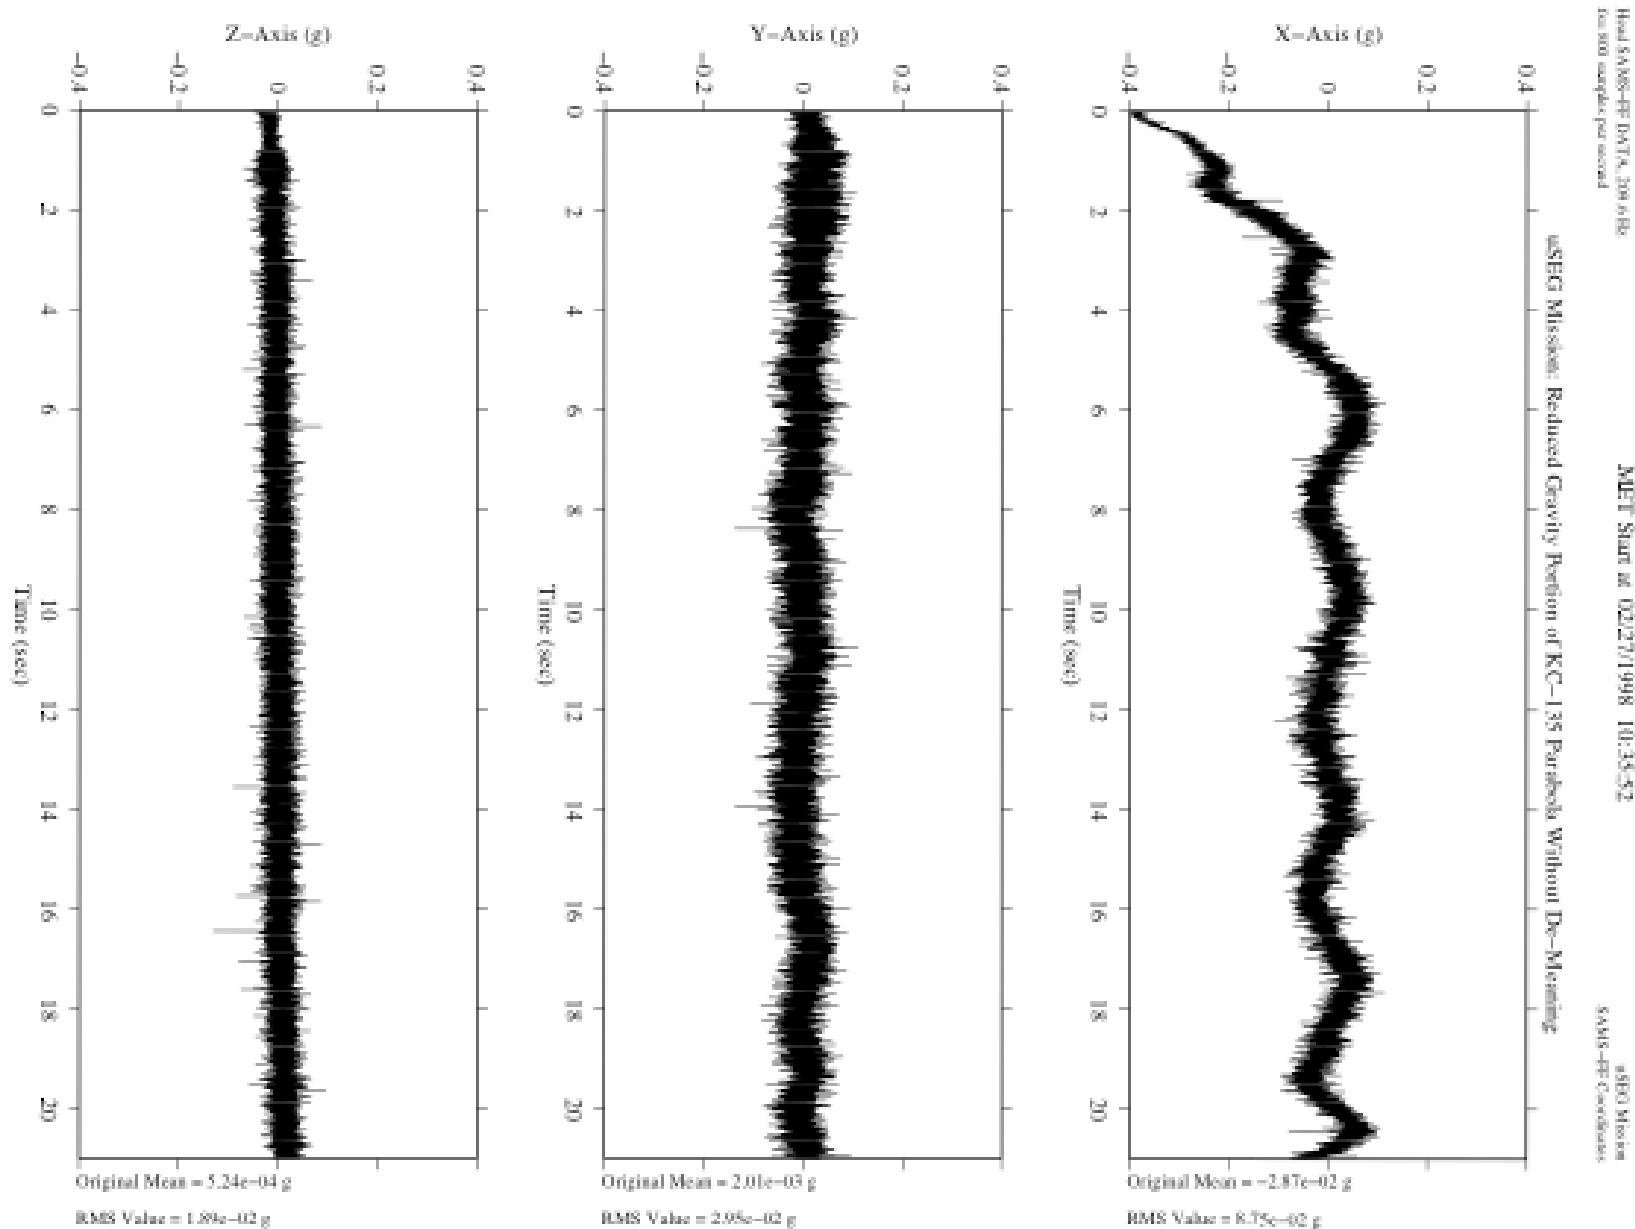

Figure 6 - Low-g portion of KC-135 parabola
- **Figure 6 is a detailed plot of the KC-135 environment during the reduced gravity portion of the parabola**